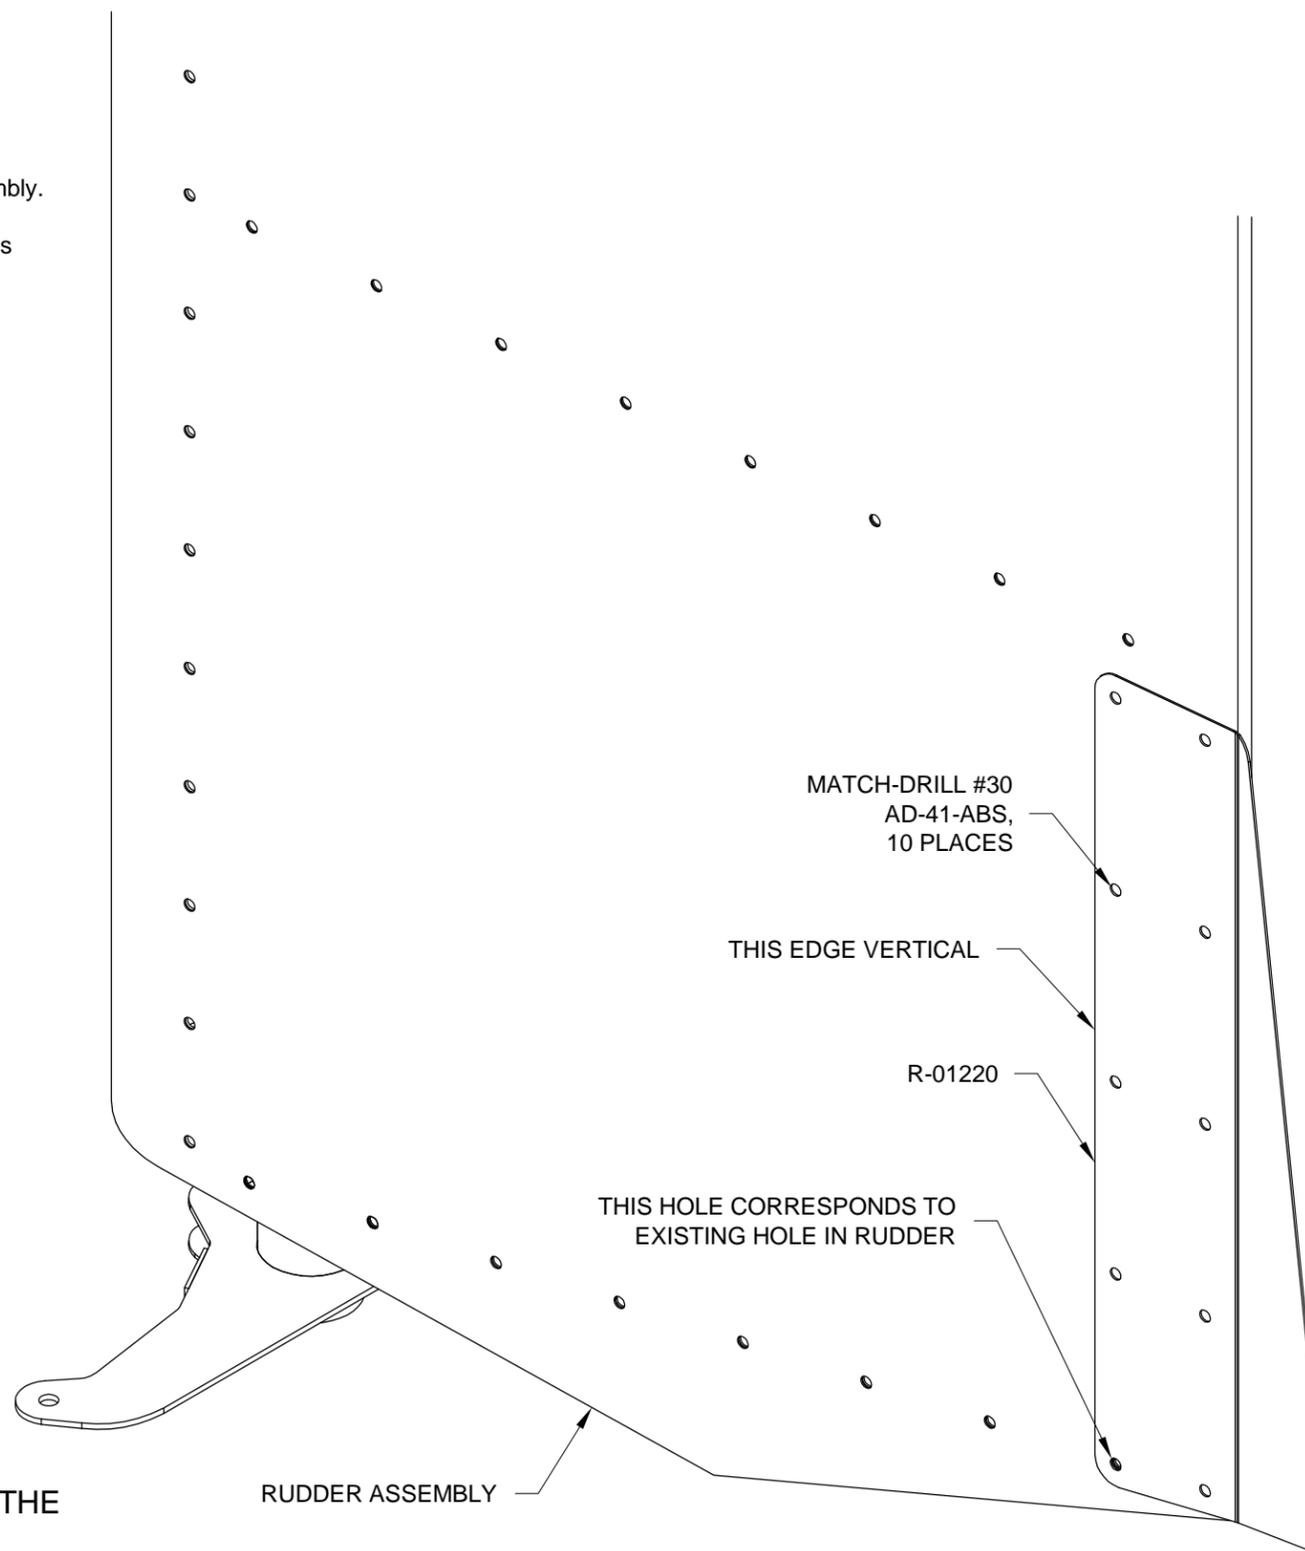

FIGURE 1: INSTALLING THE TRIM TAB
- (1) paint the rivet head
- (2) allow the paint to dry
- (3) apply protective tape to the rivet head
- (4) install the rivet
- (5) remove the protective tape.
Step 6: Rivet the trim tab to the rudder using the rivets called out in Figure 1.